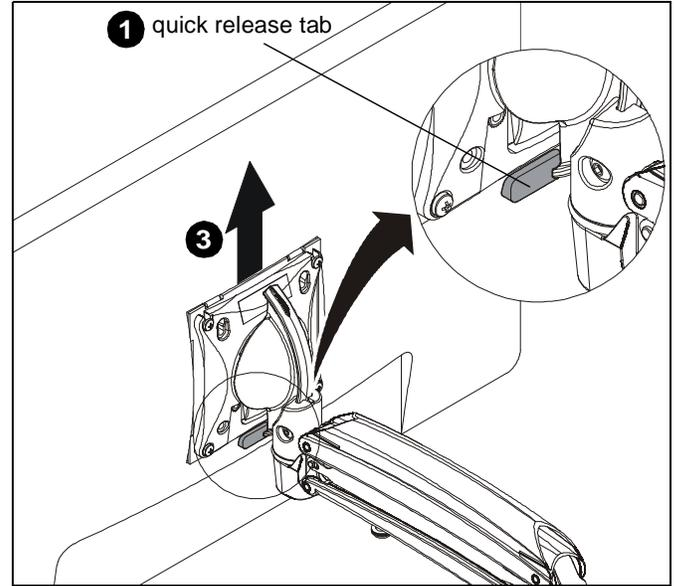
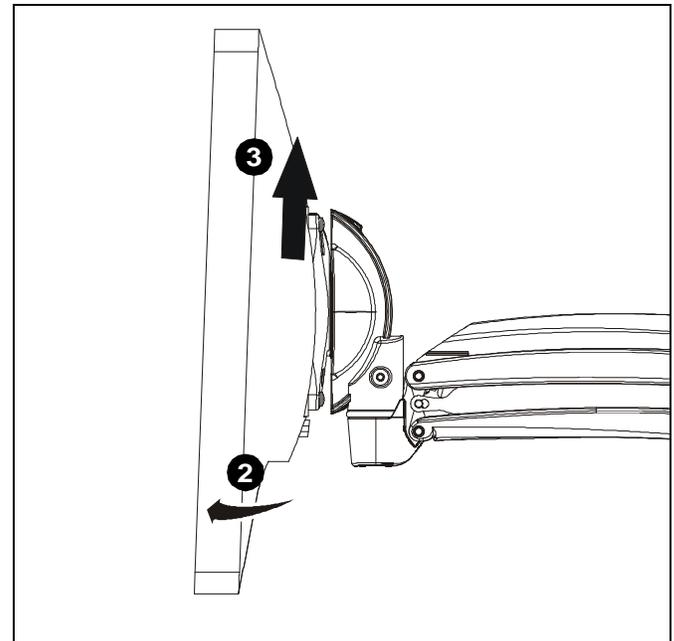

Figure 4
Figure 5
WARNING: Only remove display from mount when the display can be lifted up from the mount! DO NOT remove display unless the display is in the upright position! (See Figure 4)
1. Press quick release tab on back of display to release display from faceplate. (See Figure 4)
2. Pull bottom of display away from faceplate. (See Figure 5)
3. Lift display up from faceplate. (See Figure 4) and (See Figure 5)